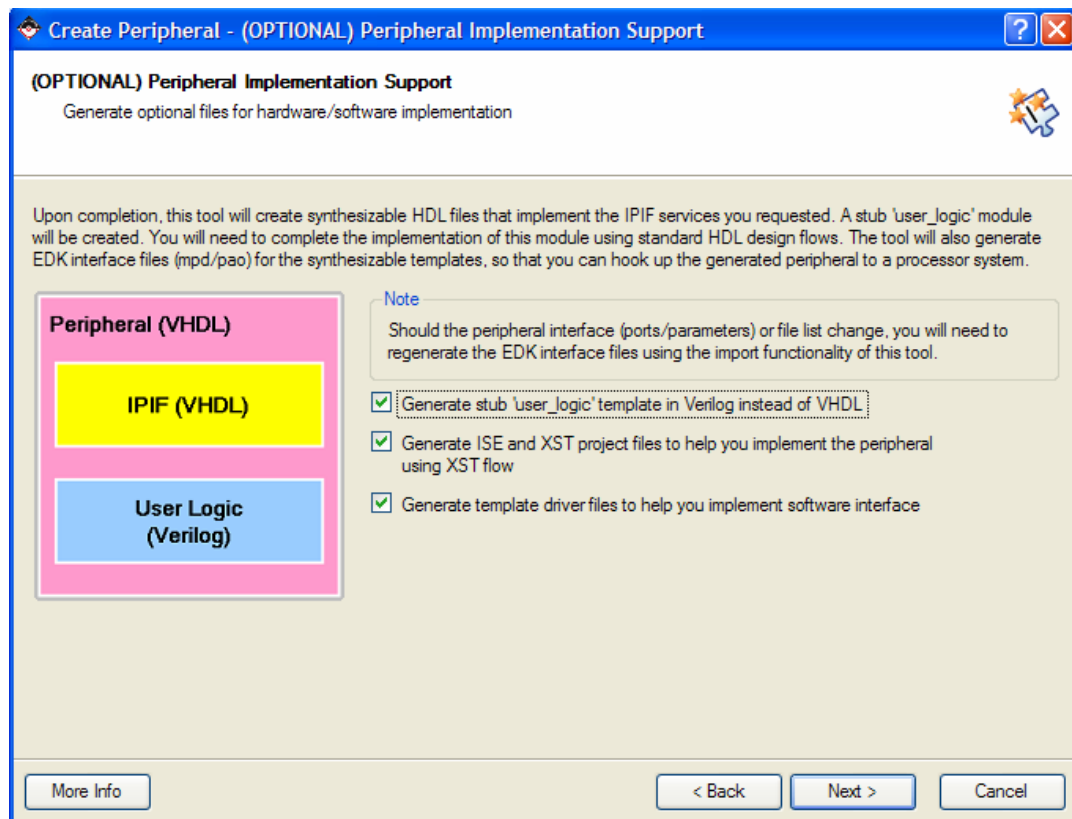

Figure 5. Select Verilog Stub
- In Peripheral Implementation Support window (shown in Figure 5), click on 'Generate stub 'user_logic' template in Verilog instead of VHDL'. A Warning message pops up. The Warning message states that even though the user_logic stub will be created in Verilog, it will have a wrapper around it written in VHDL. XPS uses VHDL for interfacing with rest of the peripherals. Click OK. We will be making our changes in the Verilog file 'user_logic.v'. This Verilog file can be found in 'pcores/multiply_v1_00_a/hdl/verilog' in your lab3 directory.